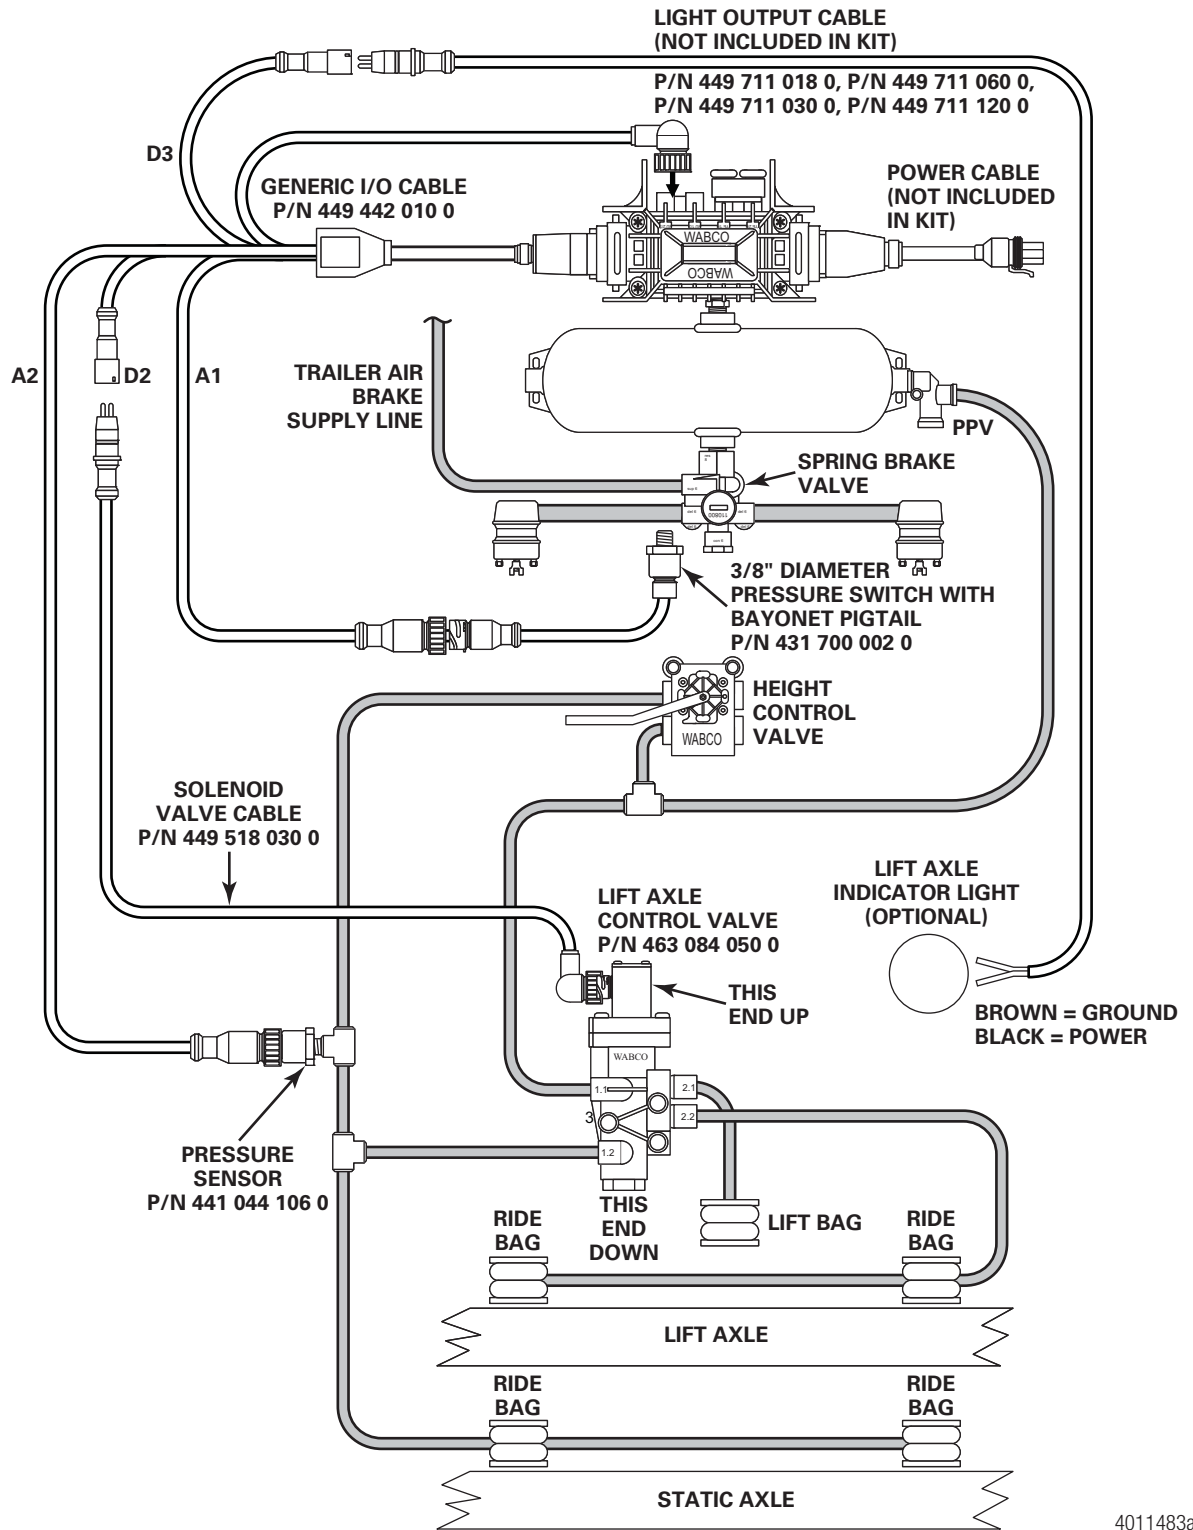
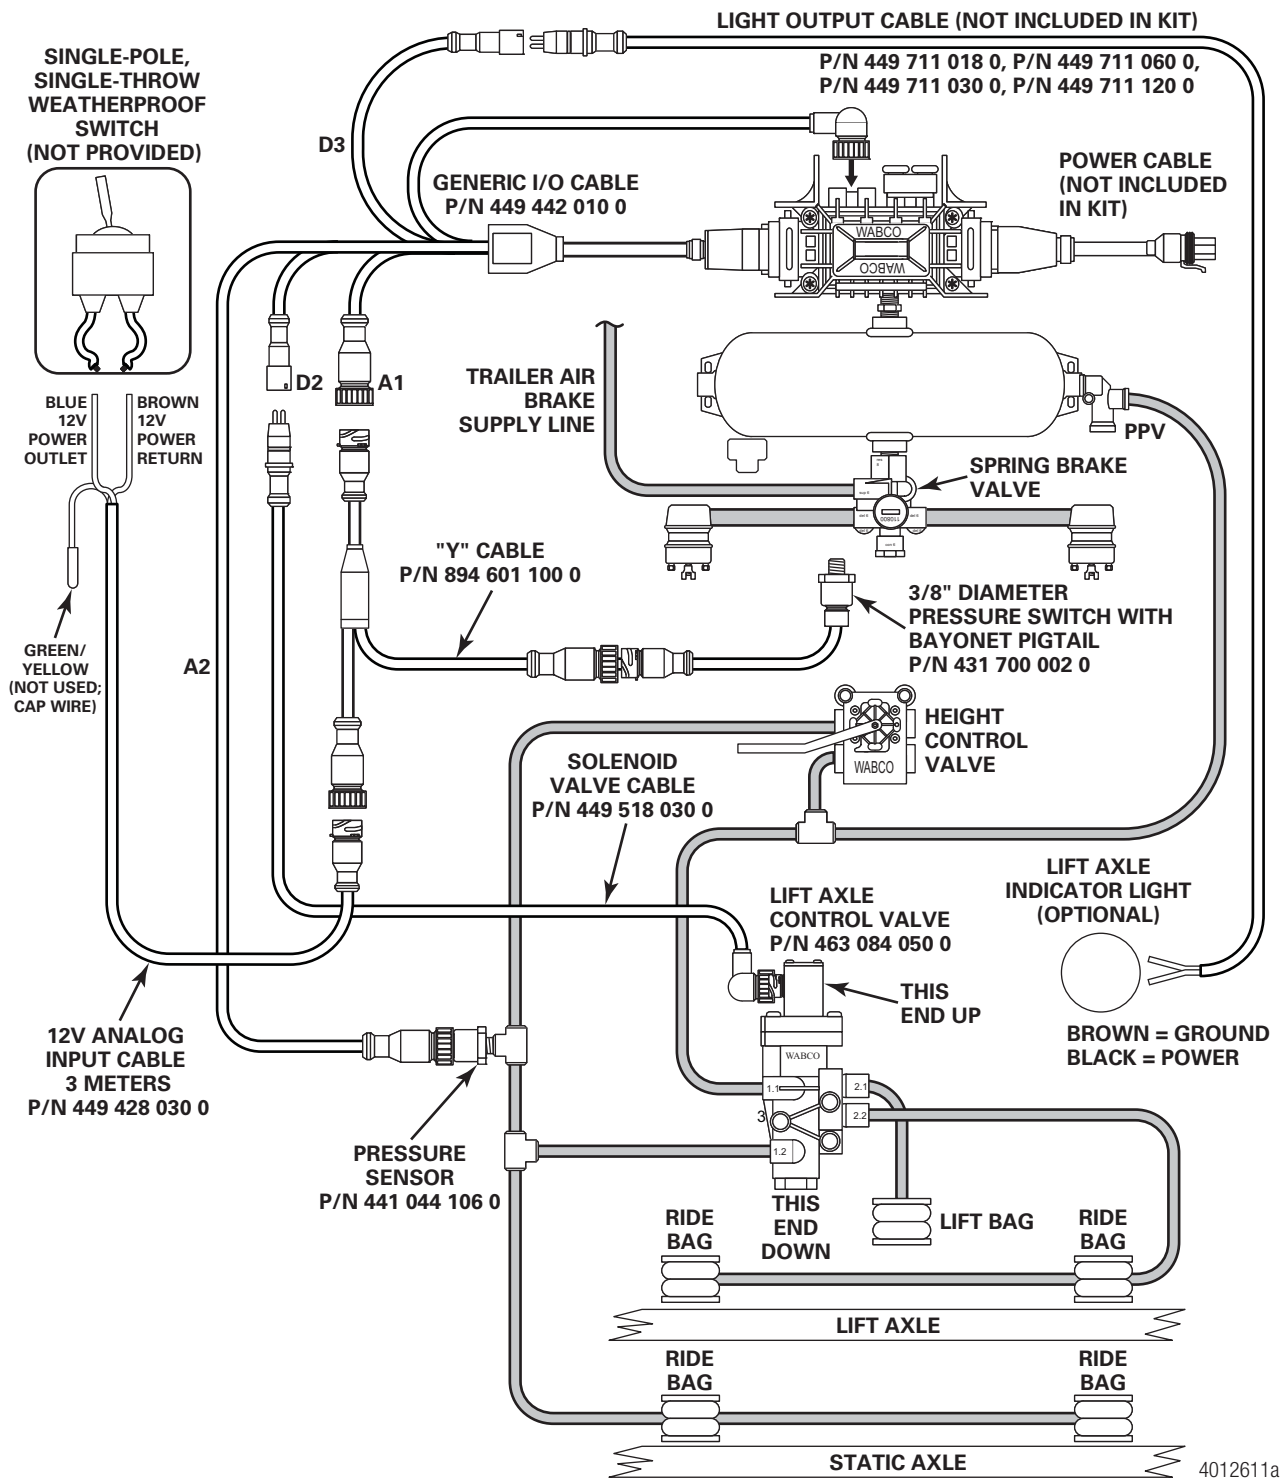

Figure 3
Figure 7
This configuration allows the lift axle to automatically raise and lower based upon values put into TOOLBOX™ Software which are downloaded into the ECU when it is programmed. This configuration allows the driver to lower the lifted axle when parked by pulling the red dash valve in the tractor to remove trailer supply air. This feature is useful for slider positioning or fast loading operations to ensure that the lift axle is in the down position. Specifically, when the delivery line from the trailer spring brake chamber meets or drops below 70 psi (4.82 bar), the ECU will automatically lower the lift axle. Refer to Figure 3 for 2S/1M ECUs and Figure 5 for 2S/2M-4S/2M ECUs.
5. Connect the multiple generic I/O cable, part number 449 442 010 0, into the ECU's modulator connector port and secure it with the locking tab. Refer to Figure 2, Figure 3 and Figure 7 for the 2S/1M Basic ECU or Figure 4, Figure 5 and Figure 6 for the 2S/2M to 4S/2M Premium ECU, depending on the functionality selected.
NOTE: “D2” lettering is stamped in white on the female end of the multiple generic I/O cable. Refer to Figure 2, Figure 3 and Figure 7 for the 2S/1M Basic ECU or Figure 4, Figure 5 and Figure 6 for the 2S/2M to 4S/2M Premium ECU, depending on the functionality selected.
7. Connect the lift axle control valve, part number 463 084 050 0, to the solenoid valve cable, part number 449 518 030 0. Refer to Figure 2, Figure 3 and Figure 7 for the 2S/1M Basic ECU or Figure 4, Figure 5 and Figure 6 for the 2S/2M to 4S/2M Premium ECU, depending on the functionality selected.
NOTE: “A1”, “A2”, “D2” and “D3” lettering are stamped in white on the female end of the multiple generic I/O cable. Refer to Figure 2, Figure 3 and Figure 7 for the 2S/1M Basic ECU or Figure 4, Figure 5 and Figure 6 for the 2S/2M to 4S/2M Premium ECU, depending on the functionality selected.